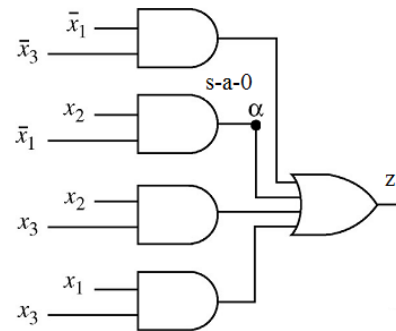

FIG. 3C
- 3C. How will you enhance the observability of node  $\alpha$  in the circuit of **FIG.3C**.